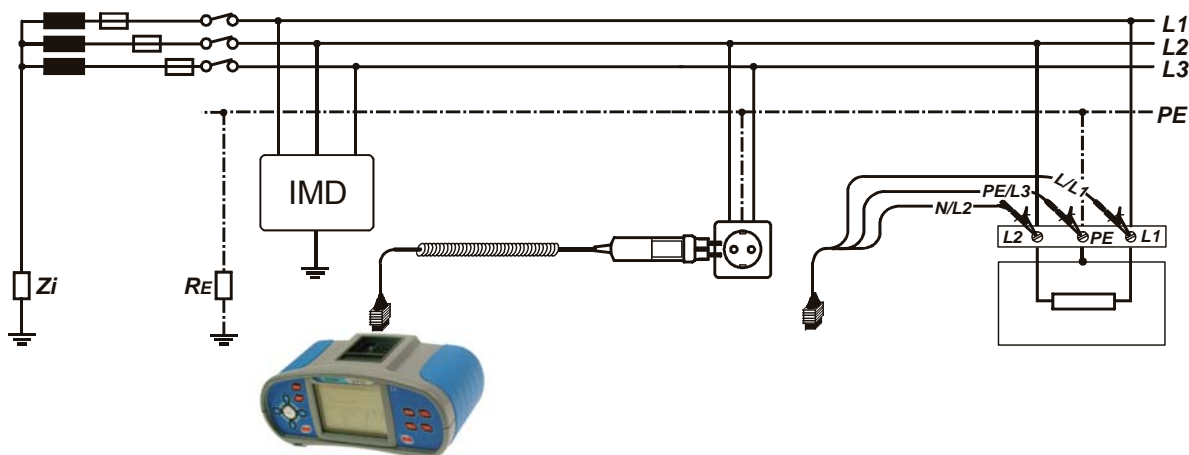

Figure B.5: Connection with plug commander and universal test cable
Step 3 Connect test cable to the instrument and to the item under test. Follow the connection diagram shown in figure B.5 to perform first fault current measurement. Use the **Help** function if necessary.
Step 3 Connect test cable to the instrument and to the item under test. Follow the connection diagram shown in figure B.5 to check insulation monitor device. Use the **Help** function if necessary.